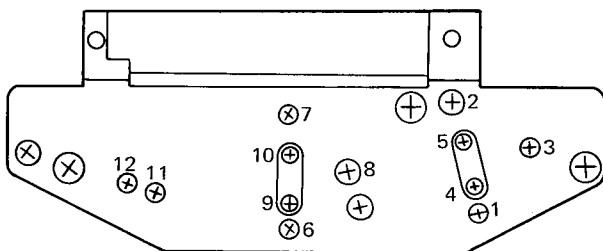

Fig. 16
7.2 P.B. HEAD ADJUSTMENT (Fig. 16)
7.3 REC. HEAD ADJUSTMENT (Fig. 16)